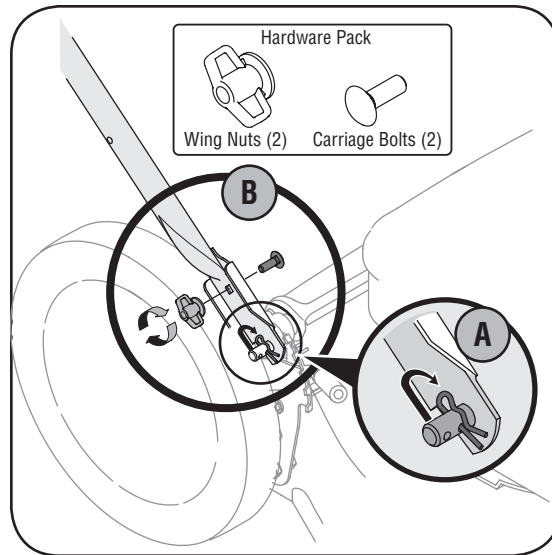

Figure 3-2: Secure lower handle to mounting brackets.
- a. Remove hairpin clip from this hole. Using a pair of pliers, insert hairpin clip into the hole on pin closest to the bracket. See Figure 3-2. Repeat on other side.